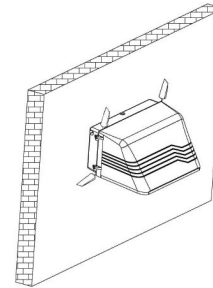

FIG. 4
8. Reinstall the front housing by reversing procedures used to remove. Then seal the door with silicone sealant. (See FIG. 4)